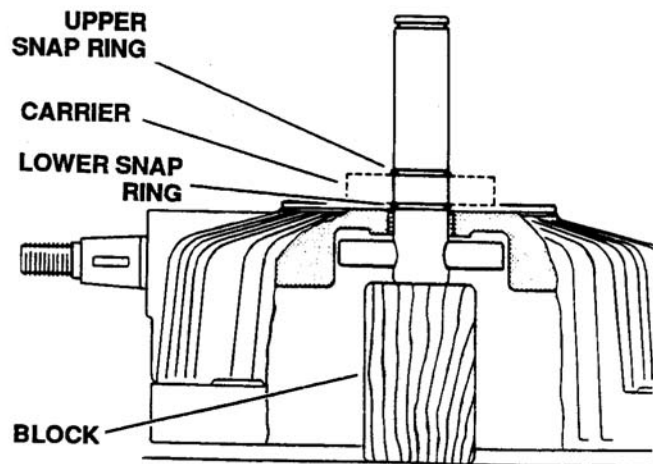

Figure 6-126. Installing Upper Snap Ring
13. On charge pumps with bushings, install the snap ring in the upper groove of the input shaft (against carrier). See Figure 6-126.